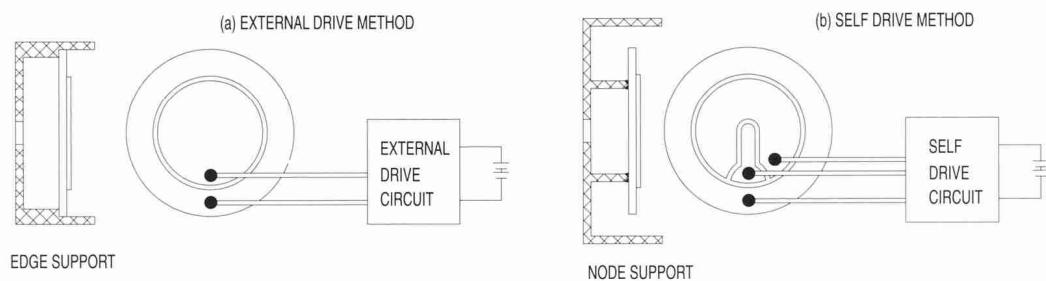

FIG.2 Drive procedure
C. Drive procedures for piezoelectric sound components include (a). external drive method and (b).self drive method as shown in fig2.